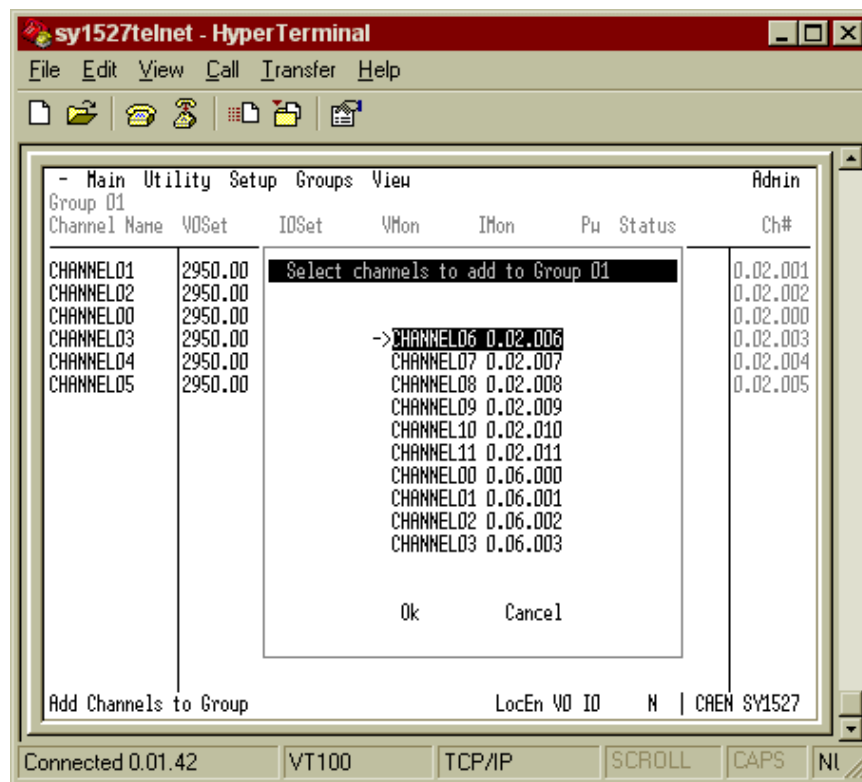

Fig. 7.11 – Add Channels pop-up Window
1. Select the **Group** you want to create (one among **Group 01** through **Group 15**) in the pop-up **Groups Menu**: if the group you selected already exists, the screen will display the Channels Window for the selected group; if it does not yet exist, the software will directly display the **Add Channels** pop-up window (Fig. 7.11);